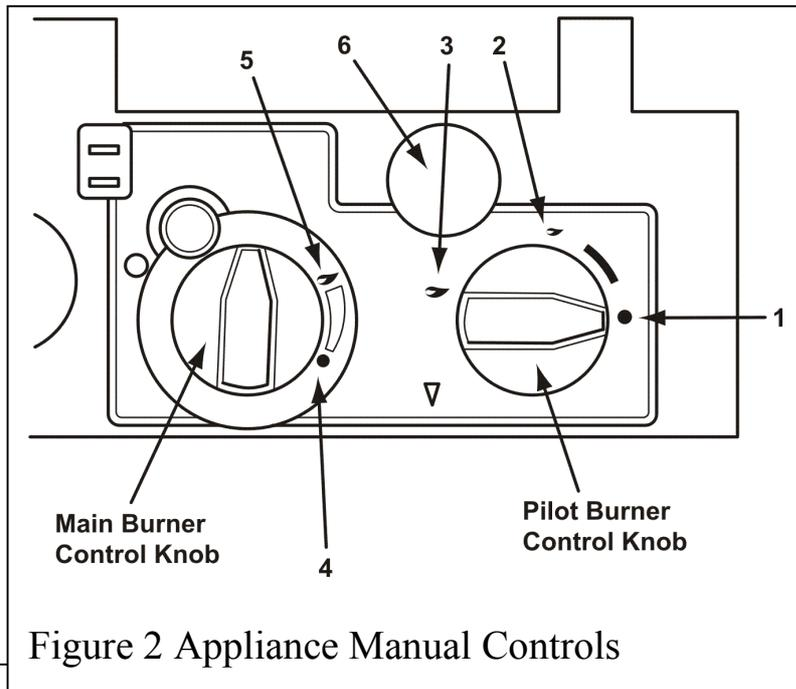
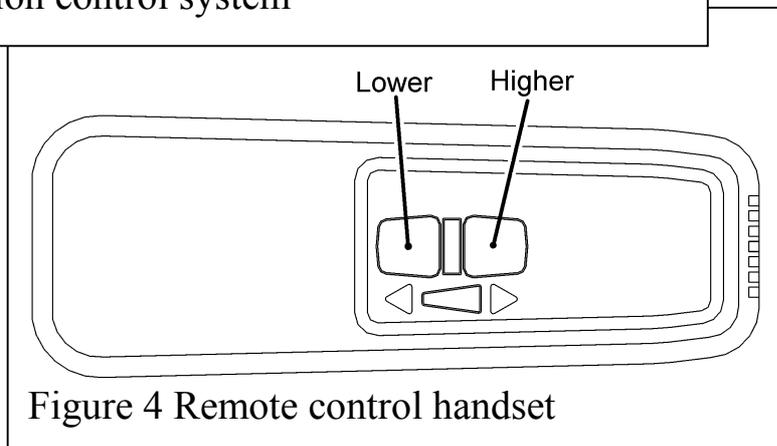

Figure 2 Appliance Manual Controls
Figure 4 Remote control handset
This appliance is fitted with a control which can be set to give a higher or lower supply of air to the burner (See 6 in figure 2).
The pilot must be lit using the pilot burner knob on the appliance (see figure 2).
The heat and flame settings can be controlled by either using the main burner control knob on the appliance (see figure 2) or by using the remote control handset (See figure 4). The remote control handset operates by sending an ultrasonic beam. The handset does not need to be accurately pointed directly at the fire.
1. Depress the pilot burner control knob and turn anti-clockwise to the ignition position (2 in figure 2) to activate the piezo ignition system. A 'click' will be heard and the pilot should light. Observe if it is alight by looking through the slots to the left hand end of the front coals. If the pilot does not light immediately, repeat the above procedure, keeping the knob depressed for several seconds in order to purge any air from the system.
Once the pilot light is alight and stable, light the main burner by turning the pilot burner control knob anti-clockwise to the "main burner on" position (3 in figure 2).
a) Using the appliance manual control: Turn the main burner control knob to any desired setting between low (4 in figure 2) and high (5 in figure 2).
- Turn the pilot burner control knob to the ignition position (**2** in figure 2). Note that the remote control handset will not operate with the pilot burner set at this position.
Turn the pilot burner control knob fully clockwise to the off position (**1** in figure 2).